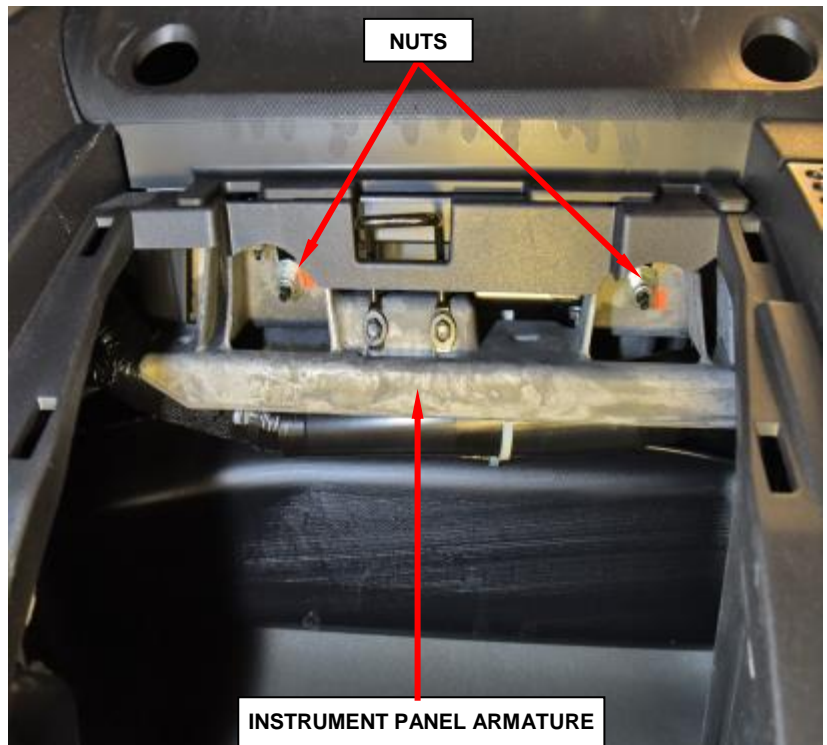

Figure 101 – Lower Passenger Airbag Nuts
6. Reach up into the instrument panel glove box opening to access and remove and **save** the two nuts that secure the passenger airbag lower studs to the instrument panel armature on each side of the glove box latch striker (Figure 101).